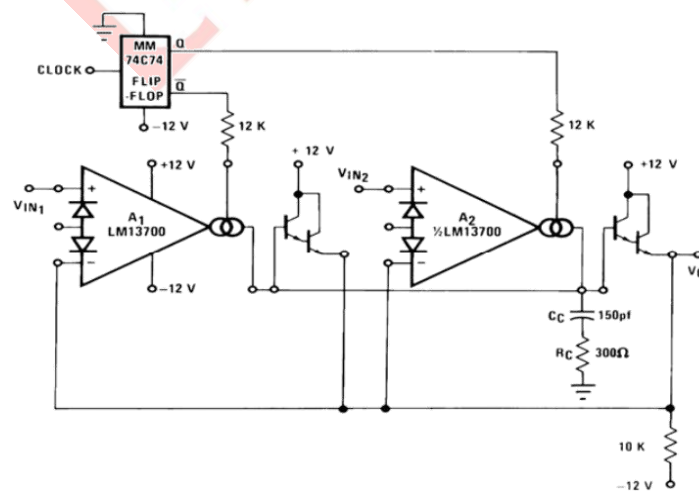

Figure 19 Multiplexer
Linear diode: When the differential voltage is greater than a few mV, equation (3) is not very suitable and transconductance becomes increasingly nonlinear. Figure 19 shows how internal circuits use diodes to linearize the functions of compensation amplifiers. For convenience, assuming that the diode para noid current source and input signal exist in the form of current, since the sum of I_5 and I_4 is equal to I_{abc} , the difference is equal to the output current, I_5 and I_4 can be expressed as follows: